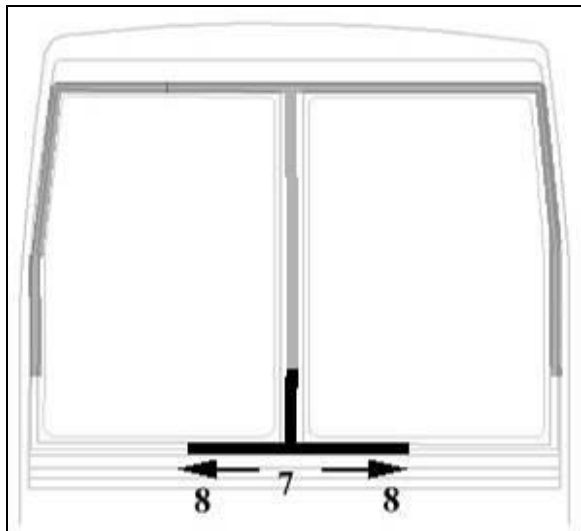

FIGURE 61
3. Bend the corners and insert at location identified #3 (Figure 61).
4. Insert the rubber extrusion at the location identified #4 (Figure 61).
5. Insert the rubber extrusion at the location identified #5 (Figure 61).
6. Insert the rubber extrusion at the location identified #6 (Figure 61). Use of soapy water is allowed for this section step.